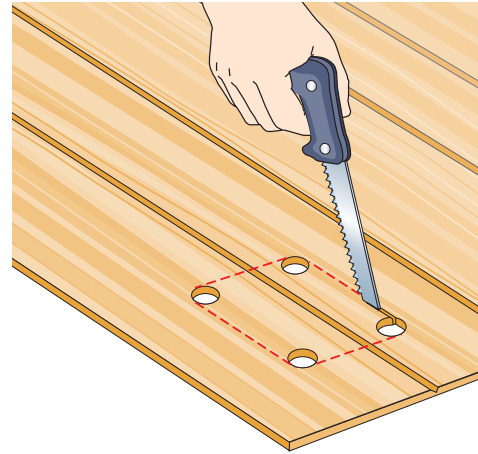

Figure 28-5 Making Cutouts
4. Cut along the outline with a keyhole saw, as shown in **Figure 28-5**, or use a jigsaw fitted with a blade that reduces splintering. Special woodworking blades are available for this but many trim carpenters find that a blade intended for cutting metal works just as well.